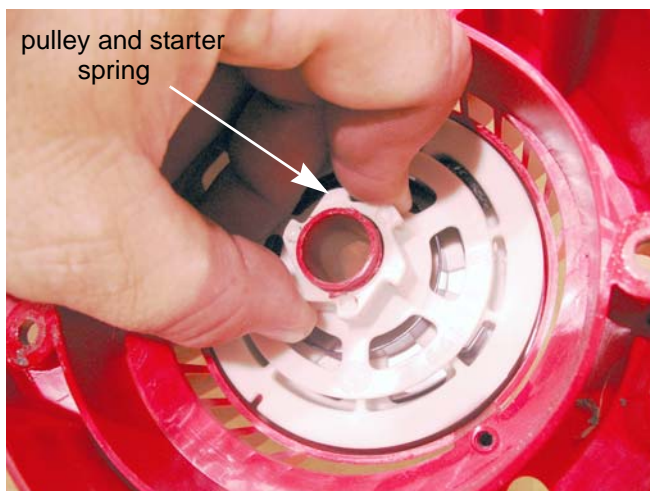

Figure 6.5
5. Carefully remove the pulley and starter assist (accumulator) spring. See Figure 6.5.